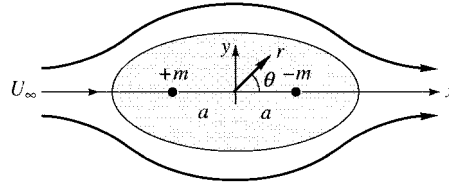

Fig. P8.95
**8.95** Show that the axisymmetric potential flow formed by a point source  $+m$  at  $(-a, 0)$ , a point sink  $-m$  at  $(+a, 0)$ , and a stream  $U$  in the  $x$  direction becomes a Rankine body of revolution as in Fig. P8.95. Find analytic expressions for the length  $2L$  and diameter  $2R$  of the body.